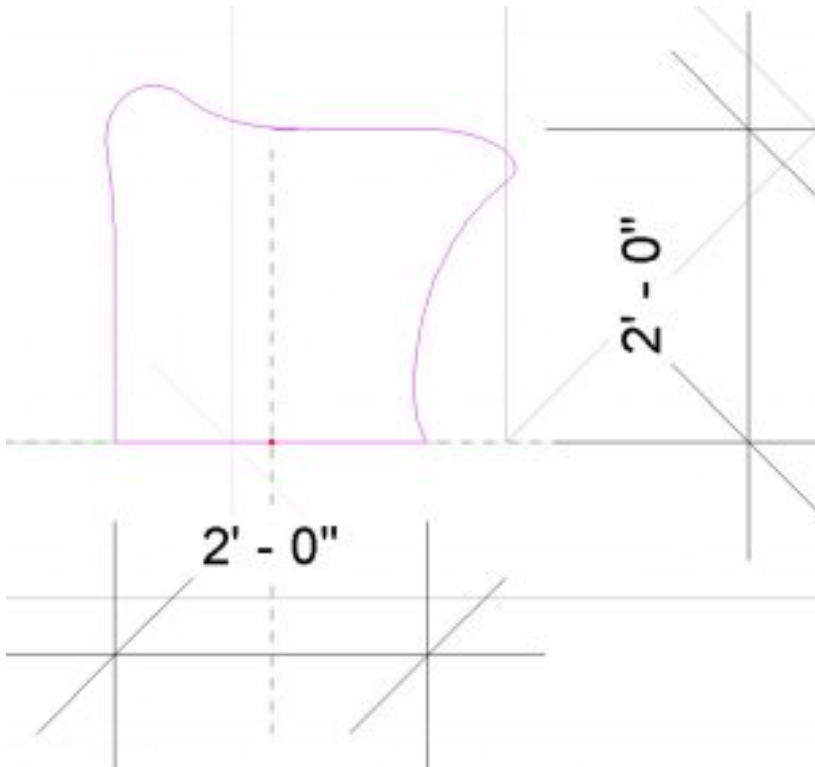

Figure 7.4 Curvilinear stool outline shown in elevation
23. Use the Line tool  and Spline tool  to draw a stool-like outline as shown in Figure 7.4